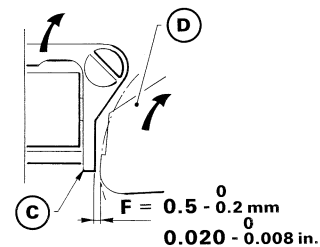

Figure 5.4
- Displace the assembly so as to obtain an air gap F. (See Figure 5.4)